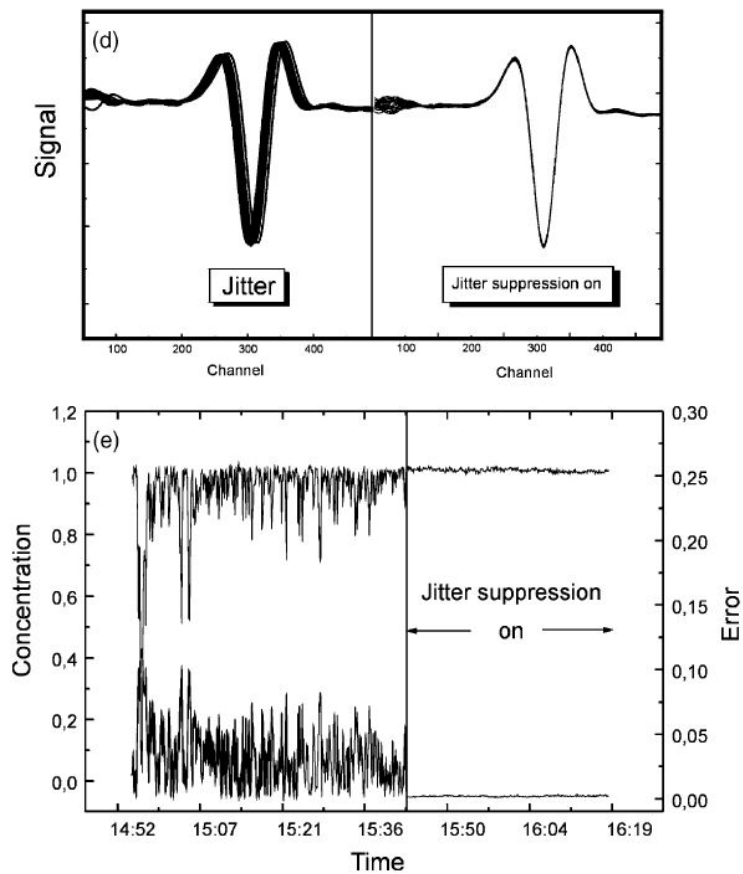

Fig. 1. An example for "drop outs" caused by frequency jitter
1. The missing zero checks and investigation of the calibration interval the first critical issue cannot be cured now after the campaign is over. This is still a weak part of the paper. To cope with that and in order to strengthen the paper, I recommend mentioning in the summary and conclusions that both zero measurements and determination of appropriate calibration intervals are a prerequisite for quality assured measurements. Even if this has not been done in this paper, it is a valuable advice for any reader of AMT planning similar measurements. The importance of "Signal processing and calibration procedures for in-situ diode-laser absorption spectroscopy" is summarized in the review paper P. Werle et al., *Spectrochimica Acta A* 60, 1685-1705 (2004), which you may add with your discussion in the summary and conclusions. In this paper the reader will then find a detailed explanation of the importance of zero and span calibration and errors introduced by signal processing. Even if the discussion is based on direct/modulation spectroscopy the underlying principles are the same for cavity ring down systems. In the above review paper it is also shown how (d) Fluctuations in the laser current translate into frequency jitter leading to "drop outs", but (e) with active jitter suppression an increase in signal stability can be obtained (Fig. 1). Probably similar effects may lead to the drop outs that you observed and it may be worth to discuss this issue with the manufacturer in the context below.